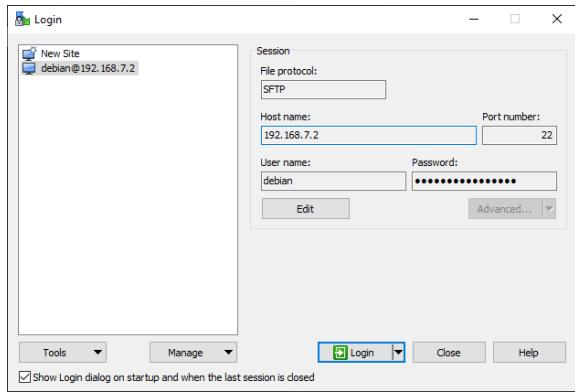

Figure 4.8: WinSCP Credentials Menu
3. Enter BeagleBone access credentials. This process is very similar to starting a PuTTY connection (Fig. 4.8)